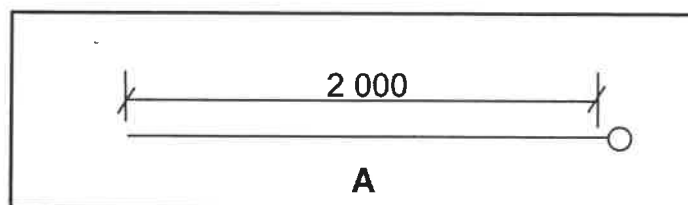

FIGURE 3.3
- 3.3 FIGURE 3.3 below shows a drain pipe. Calculate the fall of pipe **A** with a diameter of 100 mm and a total length of 2 m.